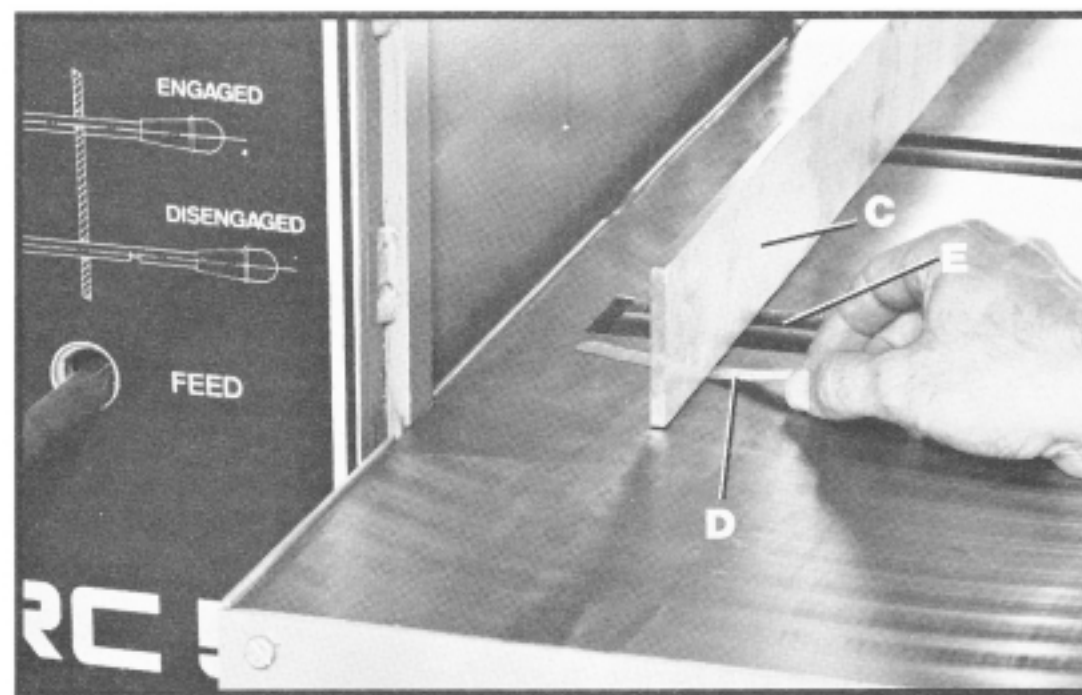
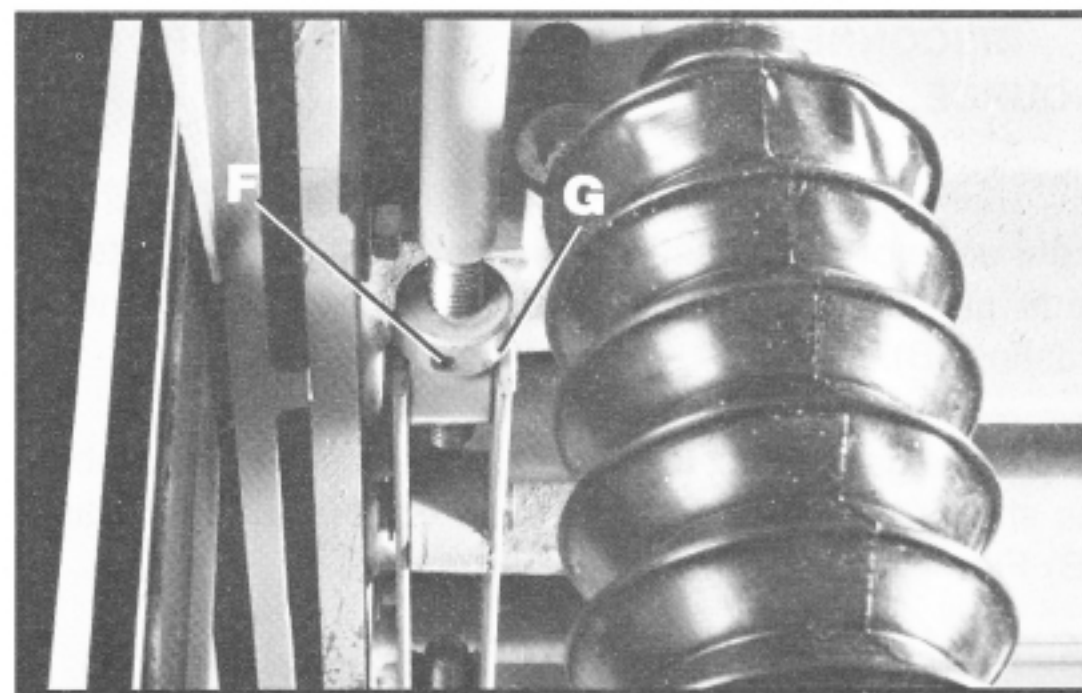

Fig. 36
Fig. 37
4. With a feeler gage (D) Fig. 36, measure the gap between the table surface and the straight edge (B) near the infeed roll (E).
5. If an adjustment to the infeed roller (E) Fig. 36, is necessary, loosen set screw (F) Fig. 37, located underneath the left front end of the table.
6. Turn adjustment collar (G) Fig. 37, left or right as needed to attain proper height adjustment.
7. Tighten set screw (F) Fig. 37, after adjustment is made.